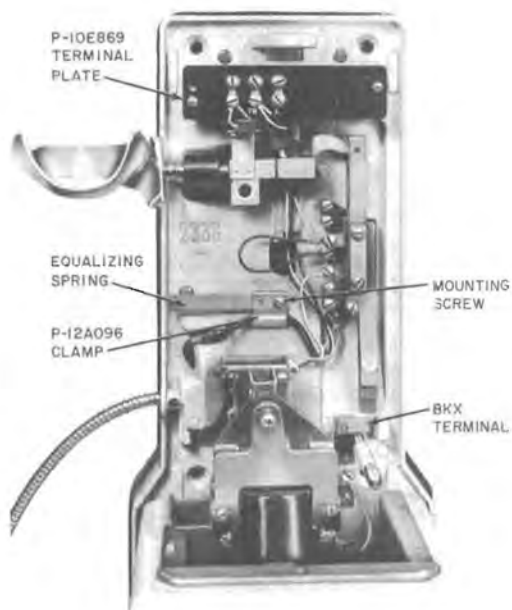

Fig. 69—Backplate Assembly With D-180120 Kit
- (1) Disconnect wires per Table M.
- (2) Remove subscriber set.
- (3) Disconnect (BK) wire from between BBX of switchhook and BE of transfer contacts.
- (4) Remove and discard terminal plate assembly at top of backplate assembly. Retain hardware.
- (5) Install P-29E307 ringer assembly (Fig. 68) in same position as terminal plate assembly was located using the retained hardware (Fig. 69).
- (6) Remove and discard BKX transfer spring at right of coin relay. Retain mounting screw.
- (7) Remove and retain equalizing spring, cord clamp, and associated fastener.
- (8) Install P-29E309 bracket assembly (Fig. 68) to backplate per Fig. 69. Use mounting screw retained in (5) to secure bracket assembly at bottom.
- (9) At top of bracket assembly, assemble in order from backplate out, equalizing spring, cord clamp, and P-29E304 terminal board (Fig. 68). Secure with hardware retained in (6) (see Fig. 69).
- (10) Route wires through cord guides where applicable and connect per Table N.
- (11) Insert plug of upper housing, which was modified in the Distributing House, in connector on backplate and install upper housing.
- (12) Check continuity, coin handling, and ringing operation of the coin collector.